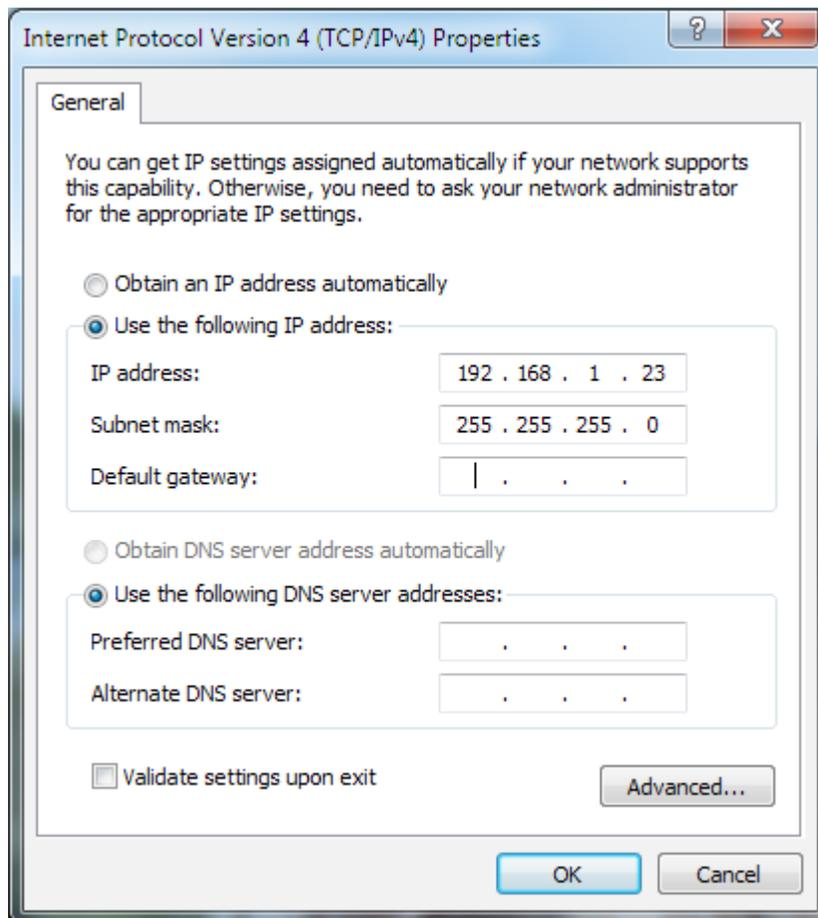

Figure 2.1 - Example of a PC Ethernet Port Settings Window
- A computer (PC or Mac) set to a static IP address in the subnet 192.168.1.xxx, where xxx is a subnet address (0 to 255) not being used by any other device on the network. Do not use 192.168.1.9 or the final IP address you will be setting the NL4 to. See Figure 2.1.